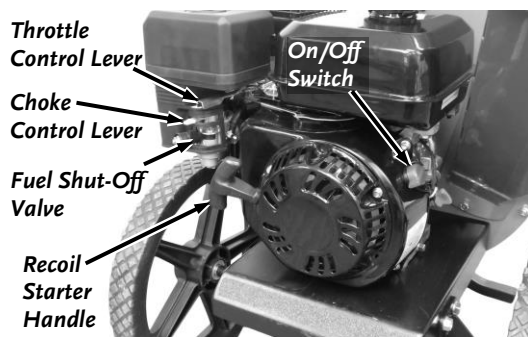

Figure 9a Manual Start
3. Move the Fuel Shut-Off Valve fully to the right to its OPEN position (**Figure 9a and 9b**).
6. **Manual Start** –Turn the On/Off Switch to the “On” position (**Figure 9a**). Grasp the Recoil Starter Handle and slowly pull until you feel resistance, then pull the cord with a smooth accelerating motion to start the engine. One or two pulls usually starts the DR Chipper Shredder.
10. - **To stop the Manual Start Engine**, move the Throttle to the Slow (Turtle) position to allow the Engine to idle and turn the On/Off Switch to the "OFF" position (**Figure 9a**).